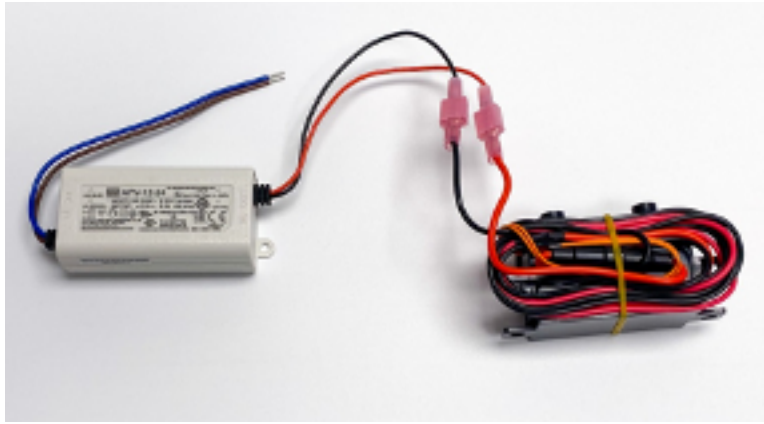
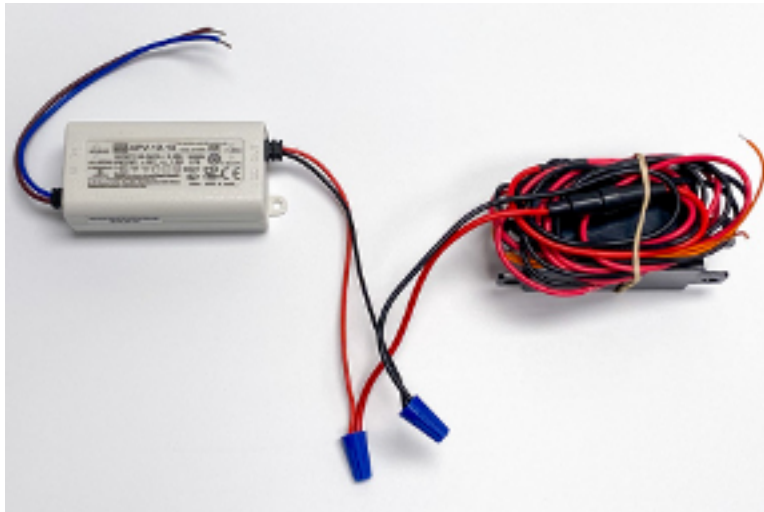

Figure 6: Example assembly with crimp connectors.
Figure 7: Example assembly with twist-on wire connectors.
- a. Twist-on wire connectors (Figure 7) and crimp connectors (Figure 6) are both acceptable methods of connecting low voltage wires.